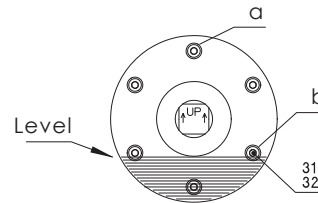

Fig. 3a
5. Refill the Drummotor with the recommended type and quantity of oil. The oil level should be just below screw **b** (refer to Fig. 3a).